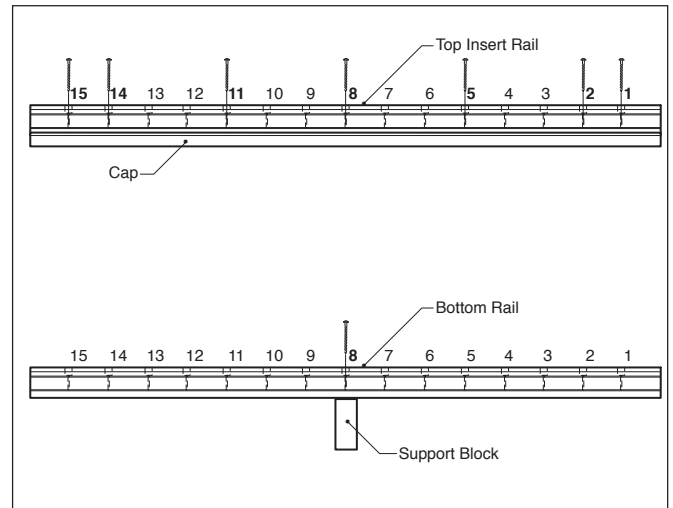
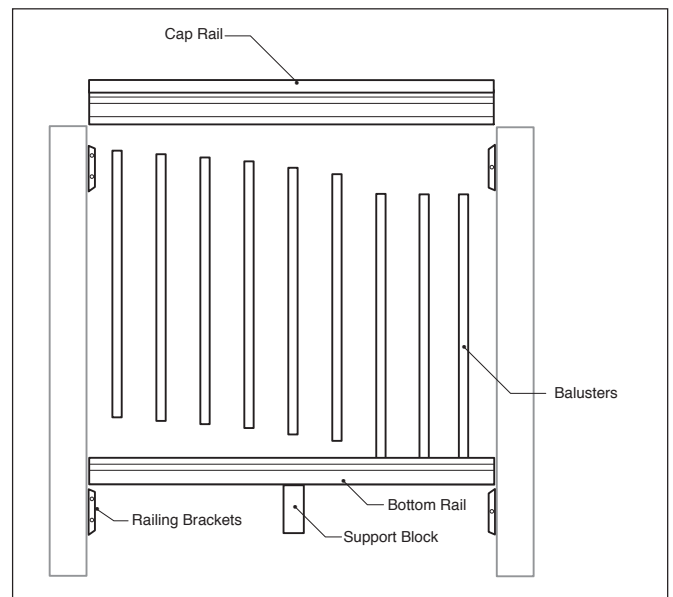

Fig. 1
Fig. 2
**Step 2:** Place the moulded cap rail upside down on a flat surface. Next, place one of the 2x4 rails into the moulded cap rail channel so that the holes are facing up. Starting from either end, fasten the top 2x4 to the cap rail using the (7) 3" screws through holes 1, 2, 5, 8, 11, 14, and 15. If rails are trimmed, predrill any additional holes with a 1/8" drill bit and insert the screw into the next nearest hole. **(Fig. 1)**
**Step 3:** Attach the support block on the bottom of the bottom 2x4 rail using the 4" screw. The support block installs under hole 8. If your rail was not trimmed evenly from both sides, find the closest hole to the center to secure the support block. If that hole has not been predrilled, predrill with a 1/8" drill bit. **(Fig. 1)**
**Step 4:** Attach the (4) 2x4 DeckoRail® railing brackets to the posts according to the included instructions.
**Step 5:** Attach the bottom 2x4 rail, with the holes facing up, using the 2x4 DeckoRail railing brackets. Insert the balusters into the predrilled holes. **(Fig. 2)**
**Step 6:** Attach the cap rail by aligning the holes to the baluster at one end of the rail and working your way to the opposite end, ensuring that all of the balusters are secured between the two rails. **(Fig. 2)**